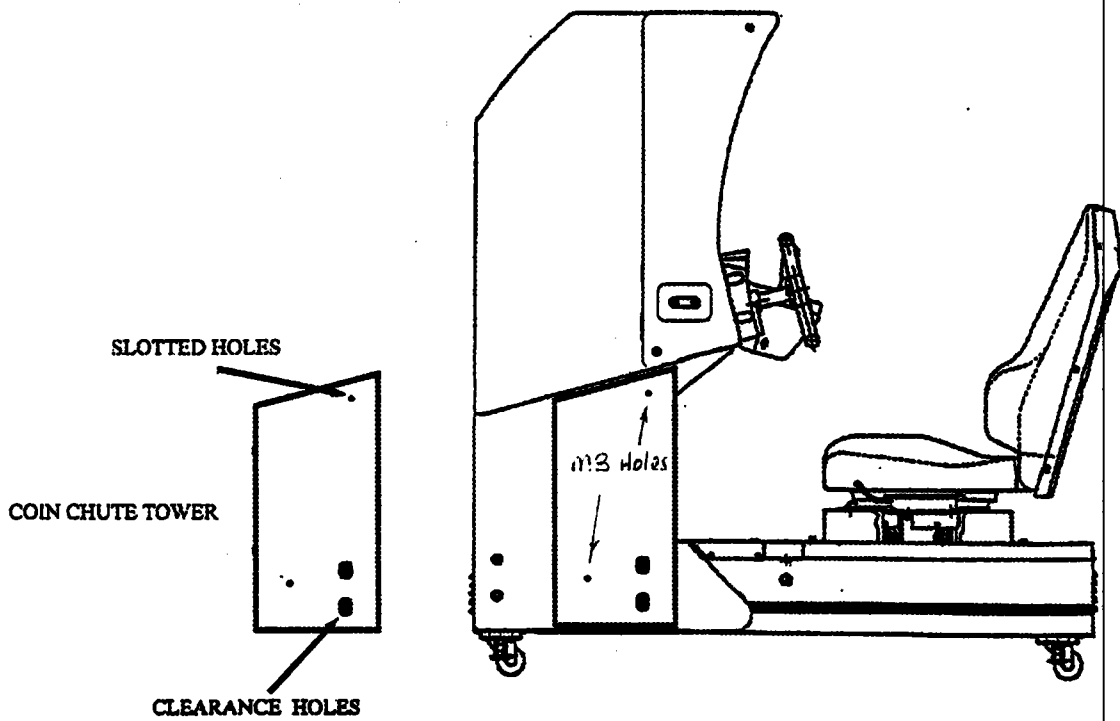

Fig. 4 Fitting Coin Chute Tower to Cabinet
- Step 3. Fit the Coin Chute Tower onto the side of the same cabinet using 2 M8 x 30 TMP PRF BH Bolts, nuts and washers. See Fig. 4